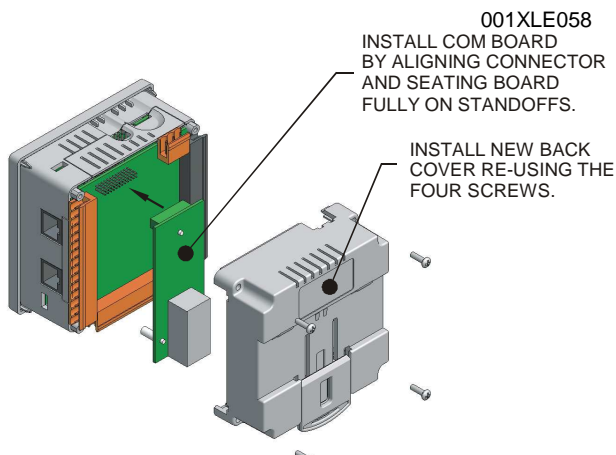

Figure 2 - Installing the Profibus Com Module in the XLE
- Plug the communication board onto the 24-pin connector. Make sure all the pins are properly aligned (Figure 2).
- Place the screw back into the hole and turn the screw slowly counter clockwise until it clicks into the threads. This prevents the screw from being cross-threaded. Now, turn the screw clock-wise until the cover is firmly secured. Repeat this process for all four (4) screws.